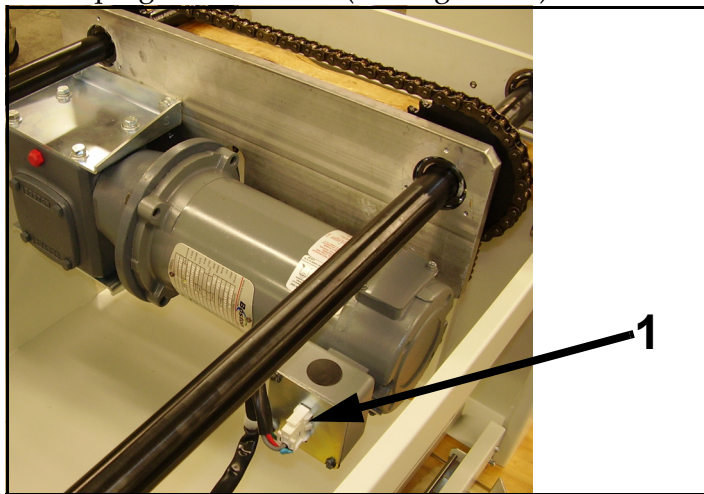

Figure 6-6. Motor Connector
- 3 Unplug the connector (1 in Figure 6-6).